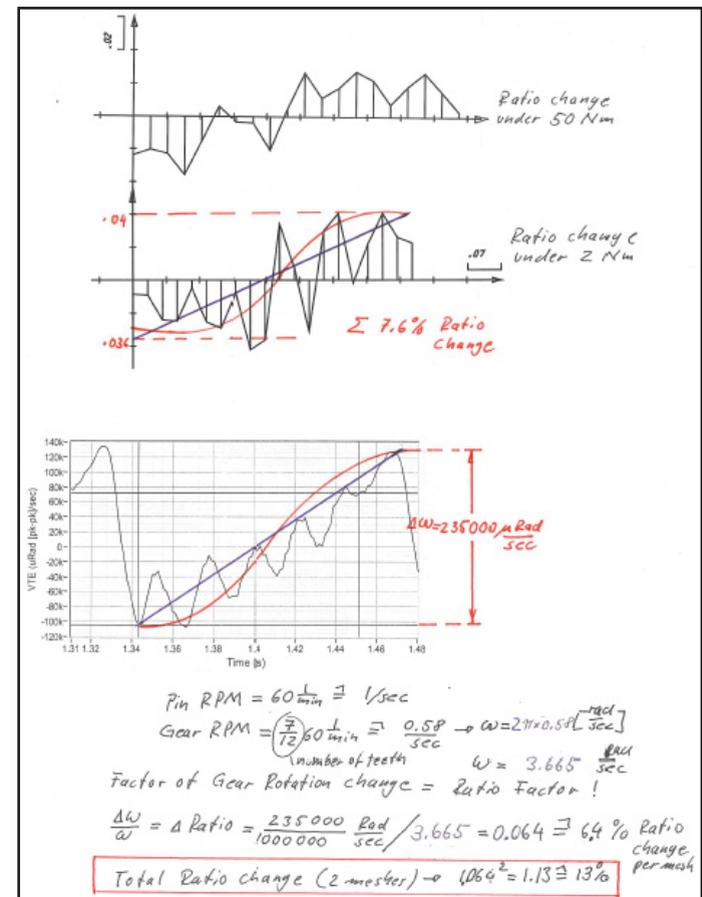
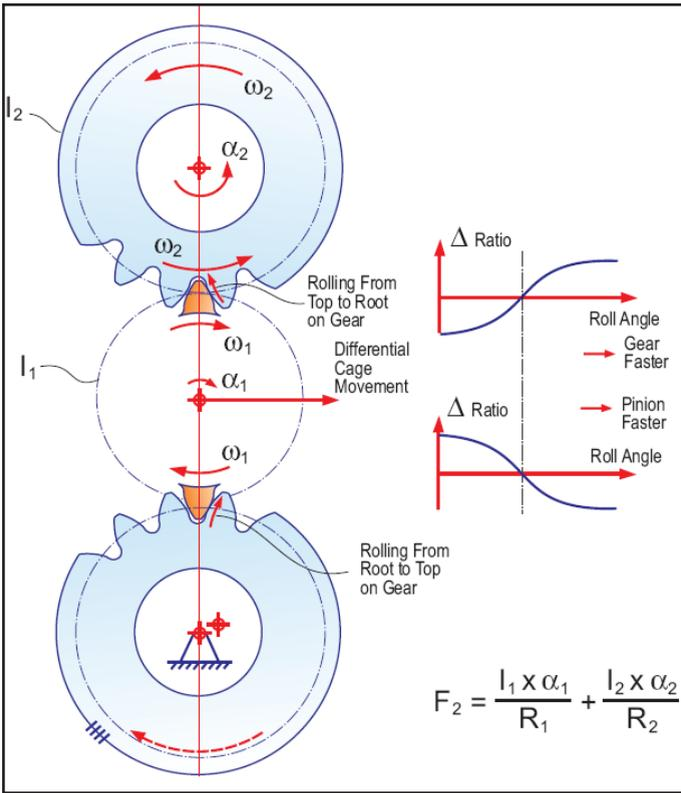

Figure 8 Calculated ratio change (top) and measured angular velocity variation (bottom).
Figure 9 High-traction function, part 1.
The ratio change has been calculated by deriving the transmission graph according to gear roll angle. The result is shown in the two diagrams (Fig. 8, top). The first diagram is calculated
The bottom graphic (Fig. 8) shows the angular velocity change. This numerical derivation was conducted from the measured single-flank data. The waviness of the climbing graph stems from the derivation of an already slightly wavy single-flank curve. Also here an S-shaped curve and a straight line were used to imply a realistic approximation of the graph. The magnitude of change is  $\Delta W = 235,000 \mu\text{rad}/\text{sec}$  i.e.  $-0.235 \text{rad}/\text{sec}$ . The angular velocity of the gear during the measurement was pinion  $2\pi \text{rpm}/(\text{ratio} \cdot 60) = 3.665 [\text{rad}/\text{sec}]$ .
**High-traction kinematics.** The case of traction on one wheel, represented by the locked lower side gear (Fig. 9) will cause a rotation of twice the speed of the upper-side gear, which slips in the present example. The pinion has to be shifted horizontally in order to generate realistic motions in the model. The lower tooth mesh moves the contact on the lower side gear tooth from root to top (gear drives pinion). This is equal to a reverse execution of the velocity change in the bottom graph (Fig. 8); in other words, it is attempted to reduce the velocity of the side gear. Since this is not possible, the pinion velocity in turn will be increased (acceleration). In the case of the upper mesh in Figure 9, the pinion drives the gear, where the tooth contact of the upper-side gear moves from top to root. This is consistent with an execution of the velocity graph at the bottom of Figure 8, from left to right.